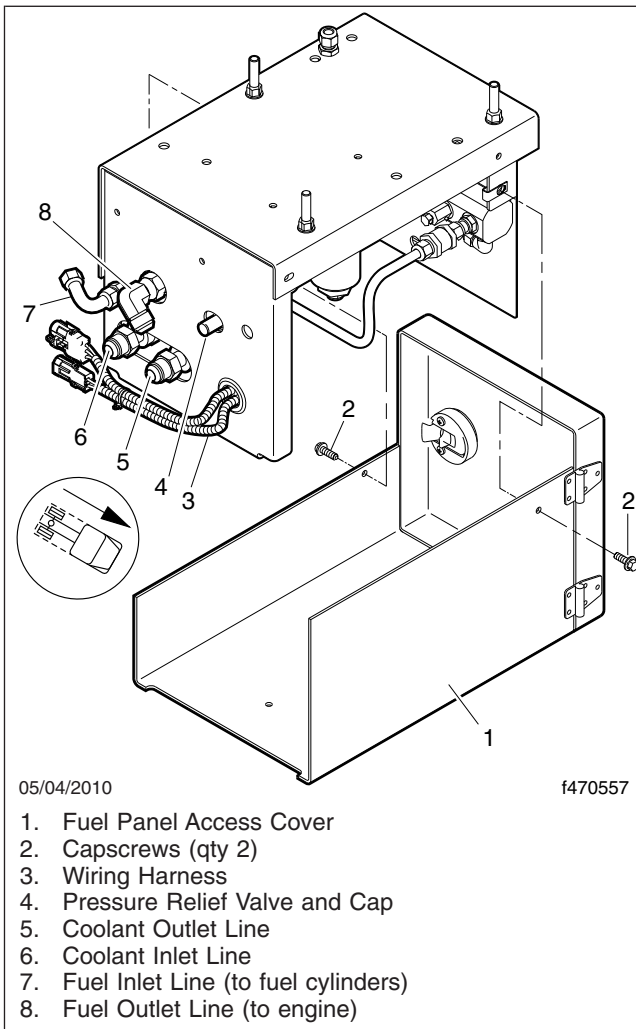

Fig. 11.16, CNG Fuel Panel Assembly
- 2.3 Remove the two capscrews that secure the access cover to the fuel panel, then remove the access cover. See Fig. 11.16. Save the capscrews for installation.